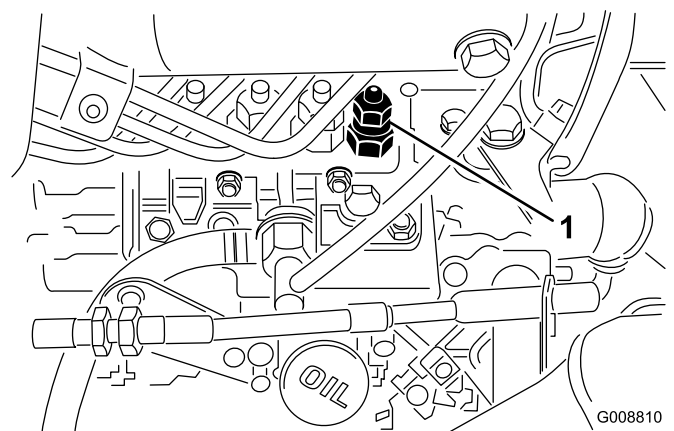

Figure 53
1. Loosen the tube connection to the Number 1 injector nozzle and holder assembly at the injection pump (Figure 53).